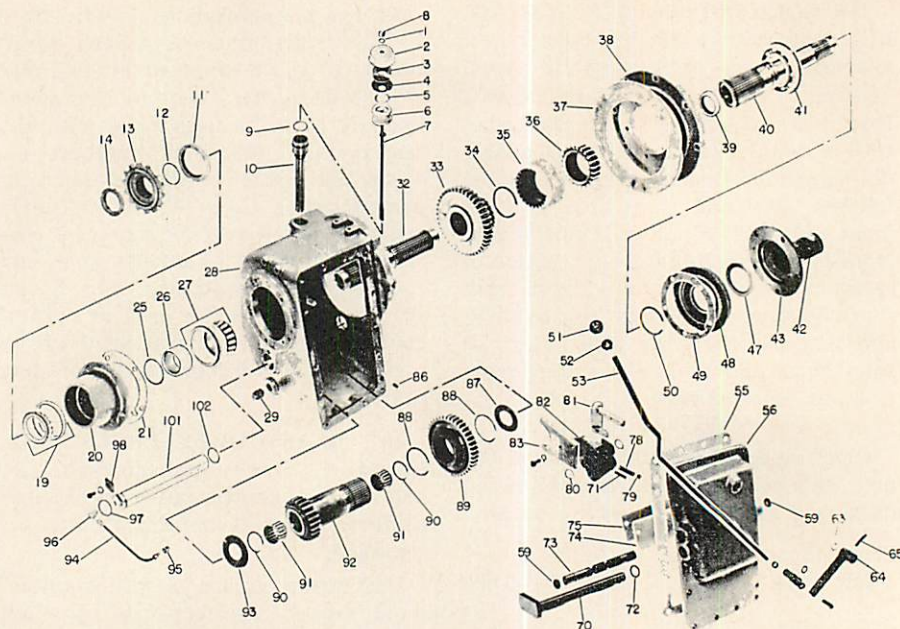

Fig. O114 — Exploded view of Creeper Drive unit.
174. **COVER ASSEMBLY.** To disassemble the cover assembly, remove the countershaft support shaft oil line, then unbolt and remove cover assembly from housing. Drive out roll pin (65—Fig. O114), pull shift lever (64) from shifter arm (81), then pull arm from cover. Seal (63) can now be renewed. Remove baffle plate (75) and gasket (74). Remove one plug (59), lift snap rings (80) from their grooves, then bump out shifter rail (73) and catch detent ball (79) and spring (78) as shift rail clears shifter hub (82). Note: Remaining plug (59) will be removed by shift rail as it is bumped out. Remove shifter fork (83) if necessary, then drive out roll pin (71) and remove interlock (lock-out) rod (70) and hub (82) from cover. "O" ring (72) can now be renewed.